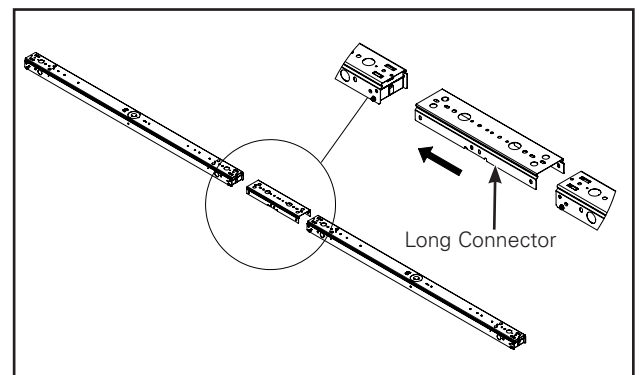

Figure 2.
2. Insert Channel Joiner to one of the channels. (Figure 2.)